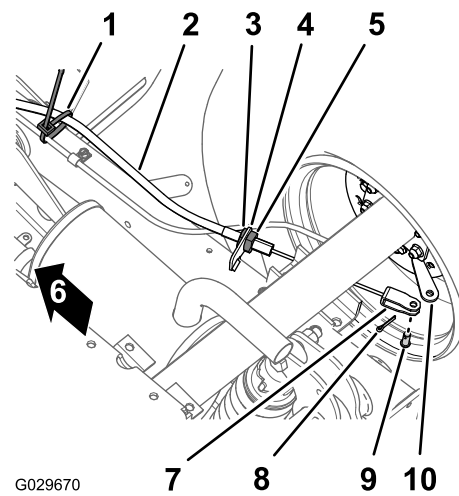

Figure 43
1. At the bottom of the machine, remove the cable tie that secures the parking-brake cable to the service brake line (Figure 43).
2. Mark a rotation stripe on the forward jam nut for the parking-brake cable (Figure 43).
3. Loosen the rear-jam nut and remove the cable from the brake-cable bracket (Figure 43).
4. Remove the cotter pin and the clevis pin that secure the clevis for the parking-brake cable to the brake-actuating lever and separate the cable from the lever (Figure 43).
1. Route the threaded adjuster of the parking-brake cable to the brake-cable bracket and the clevis to the brake-actuating lever (Figure 43).
3. Align the threaded adjuster of the parking -brake cable to the brake-cable bracket and tighten the rear-jam nut (Figure 43).